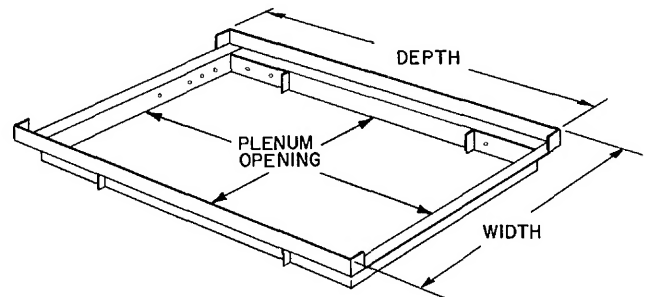

Fig. 6 — Accessory Combustible Floor Base
1. Read installation instructions packaged with accessory combustible floor base (Fig. 6).